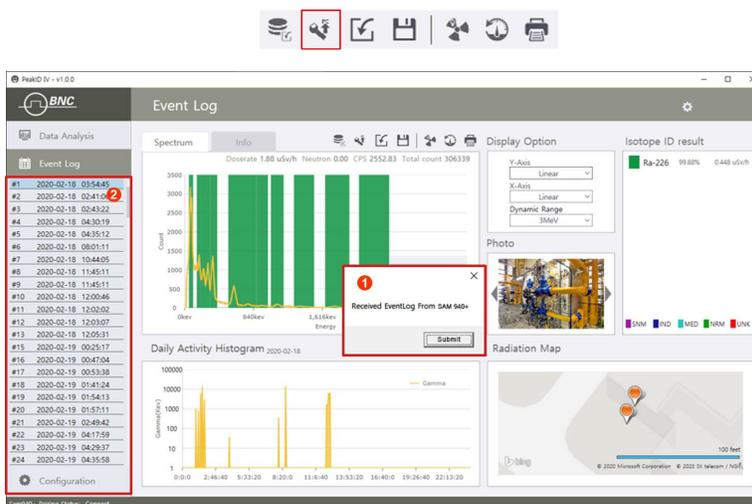

Figure 7.8.3. Download from the SAM 940+ Example
3. Click **Load from SAM 940+** icon . Download confirm message window will pop up as shown in figure 7.8.3 ①.